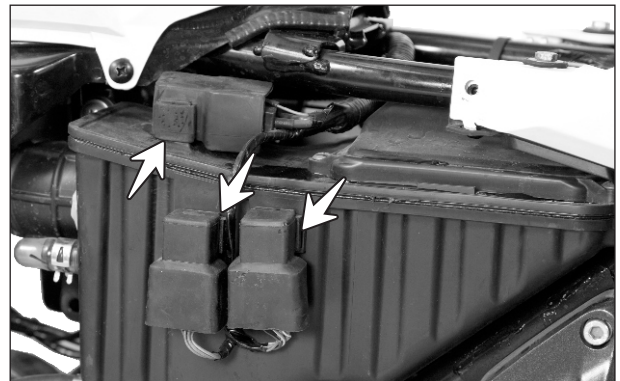

Fig. 6.131
- Dislocate the starter relays from the air filter assembly. (Fig. 6.131)